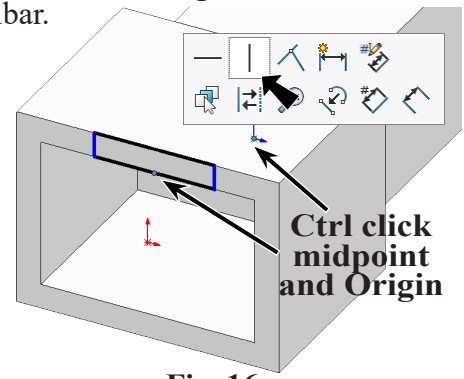
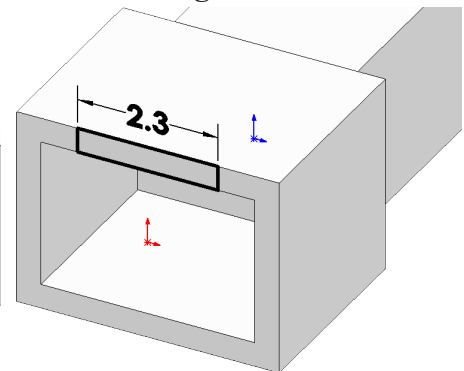

Fig. 16
Fig. 17
Step 5. **Ctrl click midpoint of horizontal Line** and **Origin**  (blue) to select both. Release Ctrl key and click **Make Vertical**  on the context toolbar, **Fig. 16**.
Step 6. Click **Smart Dimension**  (S) on the Sketch toolbar.
Step 7. Add dimension, **Fig. 17**.